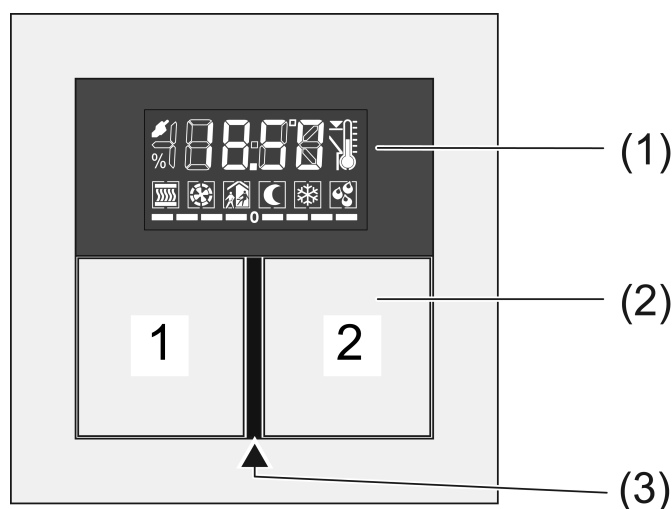

Figure 1
- Open: Simultaneously press the buttons **1** and **2** at the top left (see figure 1).